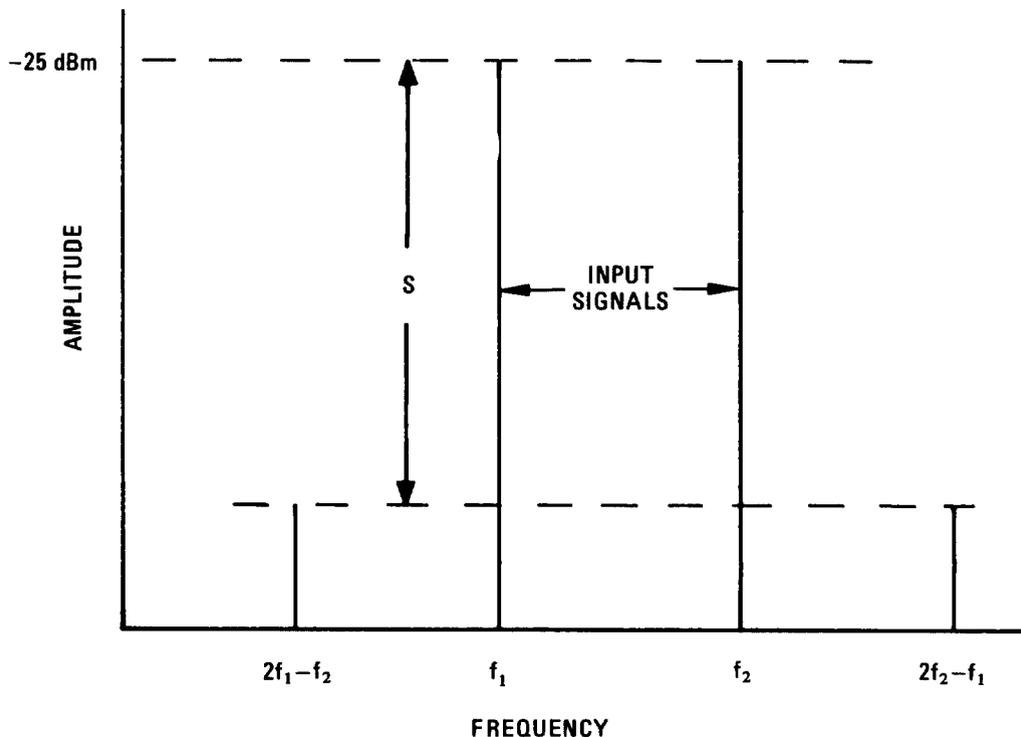

FIGURE 30. THIRD ORDER INTERMODULATION PRODUCTS
40. The result should be $> +7$ dBm. Refer to Figure 30.